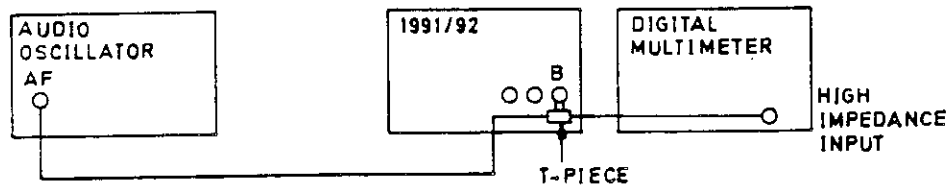

Figure 6.30 - Connections for Channel B Sensitivity PVP (II)
6.9.3.3 Channel B PVP (II)
- Connect the test equipment as shown in Figure 6.30